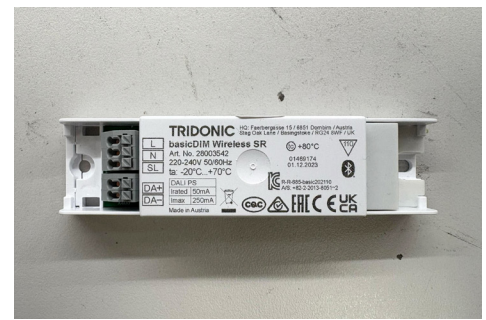

FIG. 20
1. Verify your dimmer matches the **TRIDONIC basicDIM Wireless SR** shown (Fig. 20) before proceeding with installation.